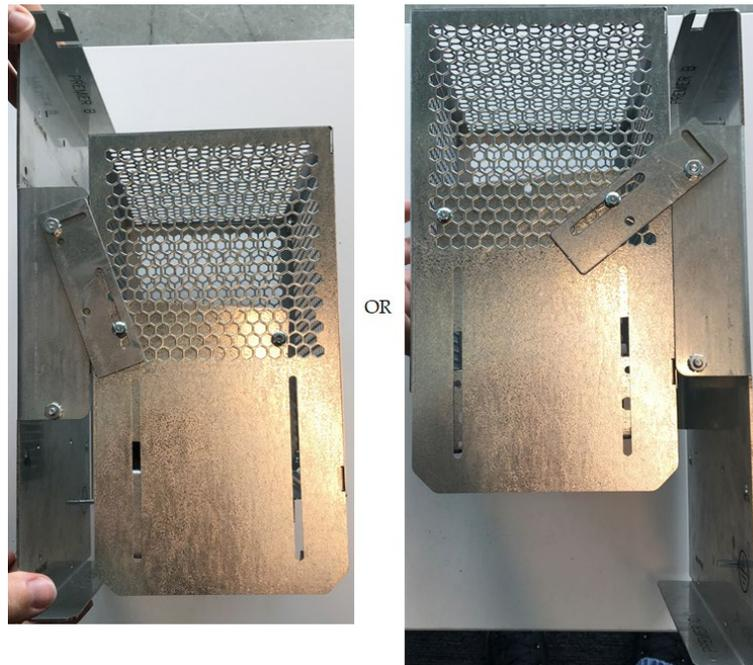

Figure 122
- 7) The wire guard can be assembled either to the right or left side of the power supply assembly as shown below. See Figure 122.